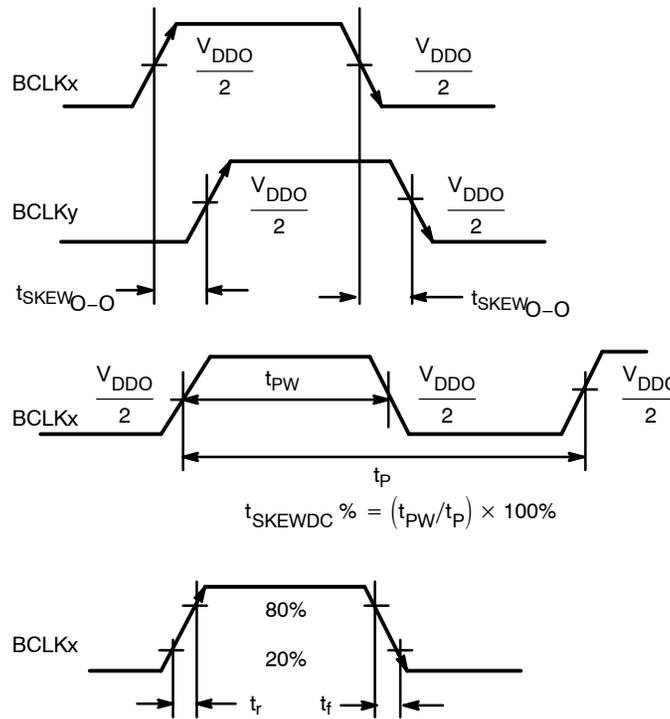

Figure 4. AC Reference Measurement
5. Crystal inputs ≤ F_{max}. Outputs loaded with 50 Ω to V_{DDO}/2. CLOCK (LVCMOS levels at XTAL1 input) 50% duty cycle. See Figures 4 and 7. See APPLICATION INFORMATION; Crystal Input Interface for CL loading.